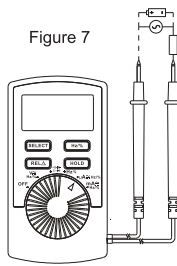

Figure 7
**7. Measuring DC & AC Current(See Figure 7,8)**